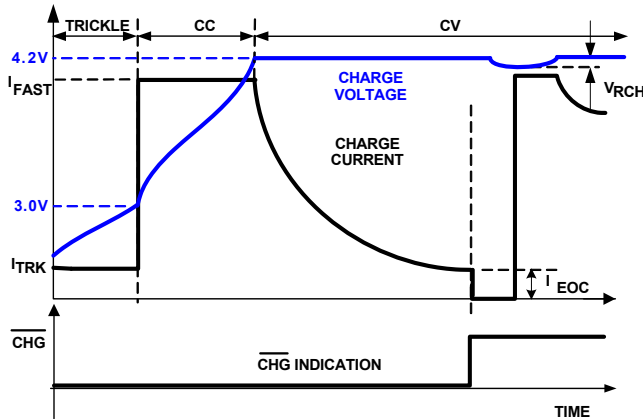

FIGURE 29. TYPICAL CHARGING CYCLE FOR CONT = L
The charger function is similar to other Li-ion battery chargers, i.e., it charges the battery at a constant current (CC) or a constant voltage (CV) depending on the battery terminal voltage. The constant current  $I_{FAST}$  is set by the external resistor  $R_{IREF}$ . Depending on the combination of the AC/USB and the MODE pin status, the actual charge current may be reduced by the input current limit. When the battery voltage reaches the final voltage of 4.2V, the charger enters the CV mode and regulates the battery voltage at 4.2V to fully charge the battery without the risk of overcharging. Upon reaching an end-of-charge (EOC) current, the  $\overline{CHG}$  will turn to high impedance to indicate a charge complete state and if CONT is low, Q2 will be turned off to terminate charging. Figure 29 shows the typical charge profile with the EOC recharge events when CONT is low.